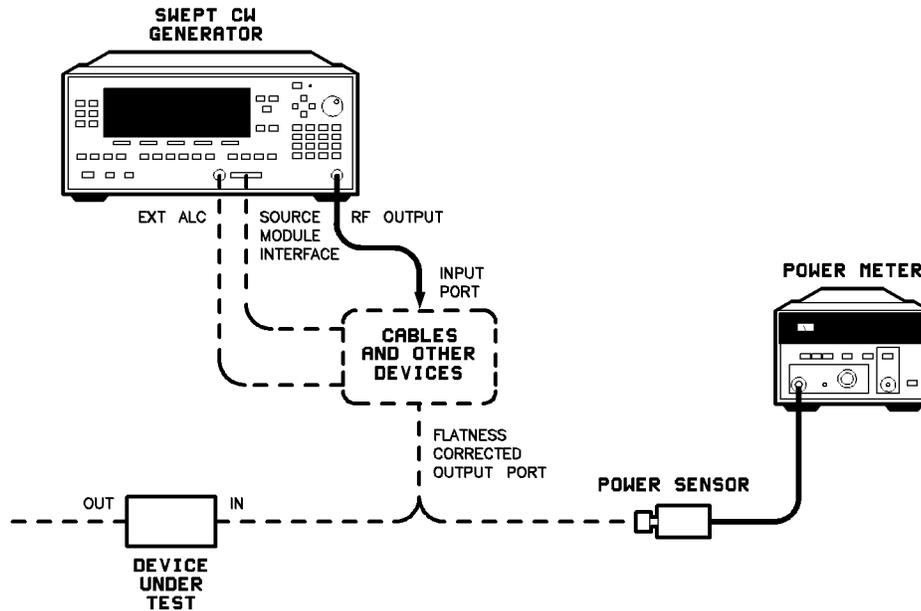

Figure 1-19. Creating a User Flatness Array
There are two basic front-panel methods of creating a flatness correction array. The first and quickest method is to use an HP/Agilent 437B power meter. Refer to Figure 1-18 for the setup. The second method is just as accurate, but requires a little more interaction between the operator and the instruments. Figure 1-19 shows the setup for the second method.
1. The equipment setup shown in Figure 1-19 assumes that if your setup has an external leveling configuration, the steps necessary to correctly level have been followed. If you have questions about external leveling, refer to “Externally Leveling the Swept CW Generator”.